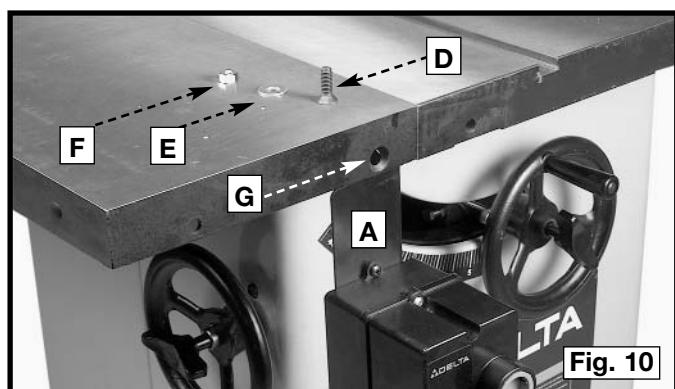

Fig. 10
2. Insert a 5/16-18x1" flat head screw (D) with a 5/16" flat washer (E) through the hole (G) in the front lip of the extension table and through the switch bracket (A). Use a 5/16-18 hex nut to loosely attach the switch and switch bracket (A) Fig. 10 to the inside front lip of extension table. with (F) through hole (G).